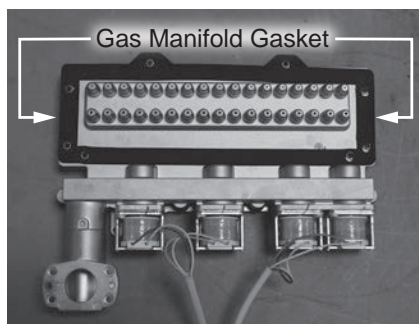

Figure 128 - Replacing gas manifold gasket
- 23 Locate the gas manifold gasket provided in the kit. Use a plastic scraper to gently scrape old insulation gasket clean from gas manifold. Confirm assembly surface is free of any debris or leftover insulation. Install new gasket to gas manifold. See Figure 128.